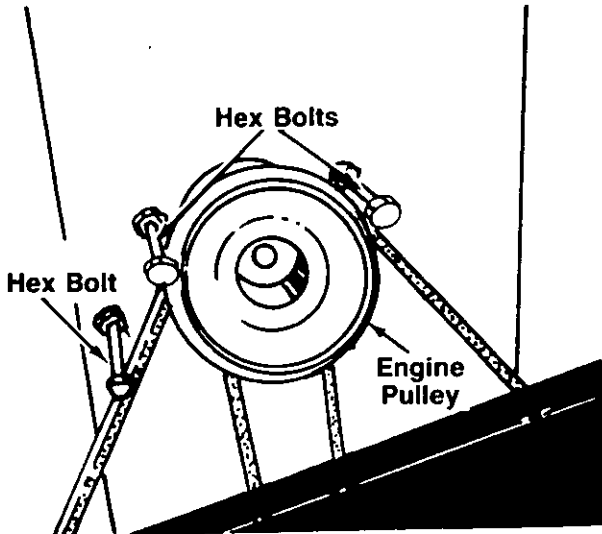

FIGURE 26.
Figures 26 through 29 are shown with the unit tipped up for clarity. It is not necessary to tip the unit to remove the belts.
3. Remove the three hex bolts (belt keepers) from the engine pulley belt guard. See figure 26.
Make certain hex bolts are reassembled as shown in figure 26.